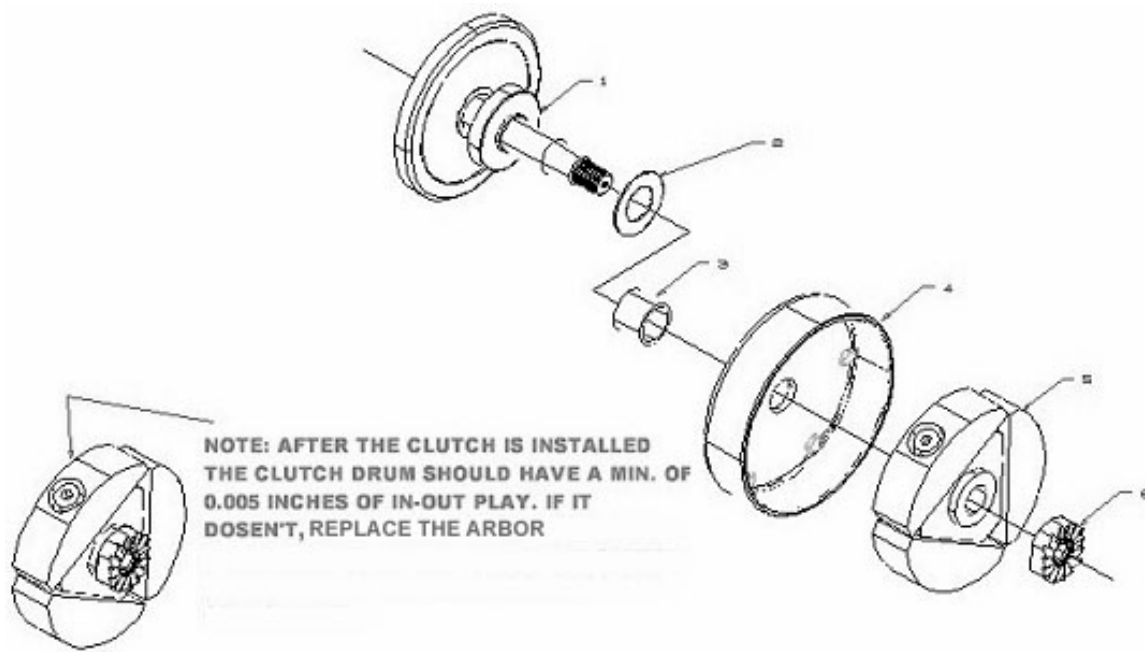

Figure 33, Clutch Assembly Drawing
7. Apply high strength thread locking agent to the threads and install the nut and torque to 35 ft-lb (47Nm) with the special socket (see figure 33).